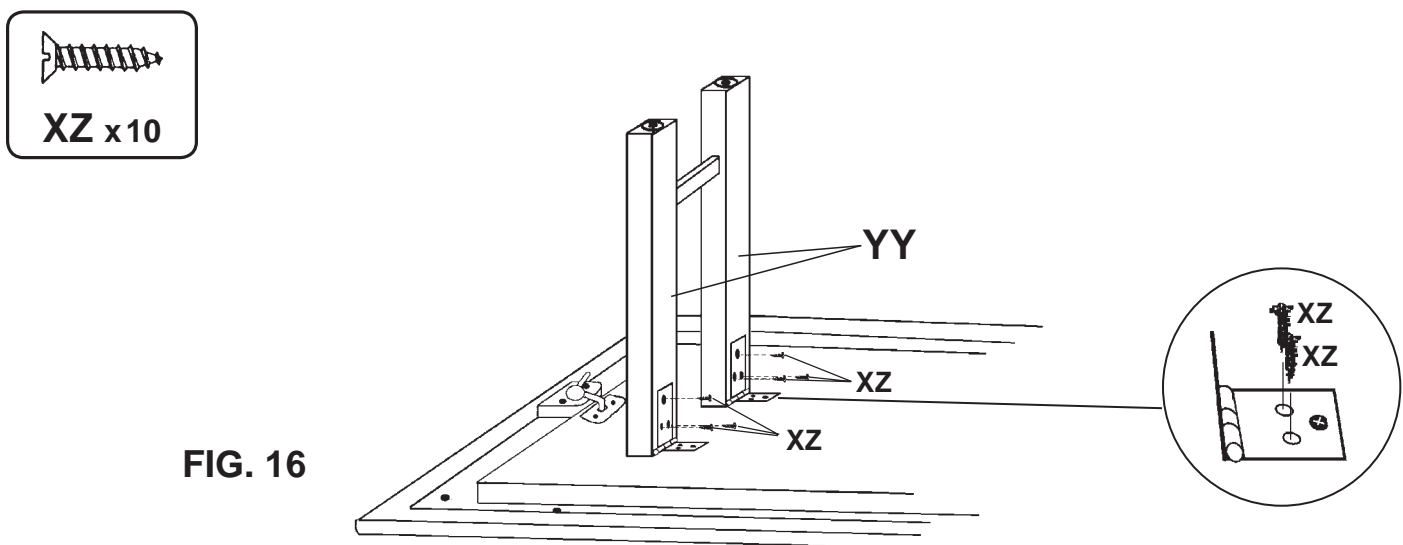

FIG. 16
- 16) With long flap of the hinges up and top of legs flat on the table top, attach hinges to Legs (YY) with #5x5/8" Brass Flat Head Screws (XZ). **NOW** insert other two screws through the hinge into the table. See FIGURE 16.